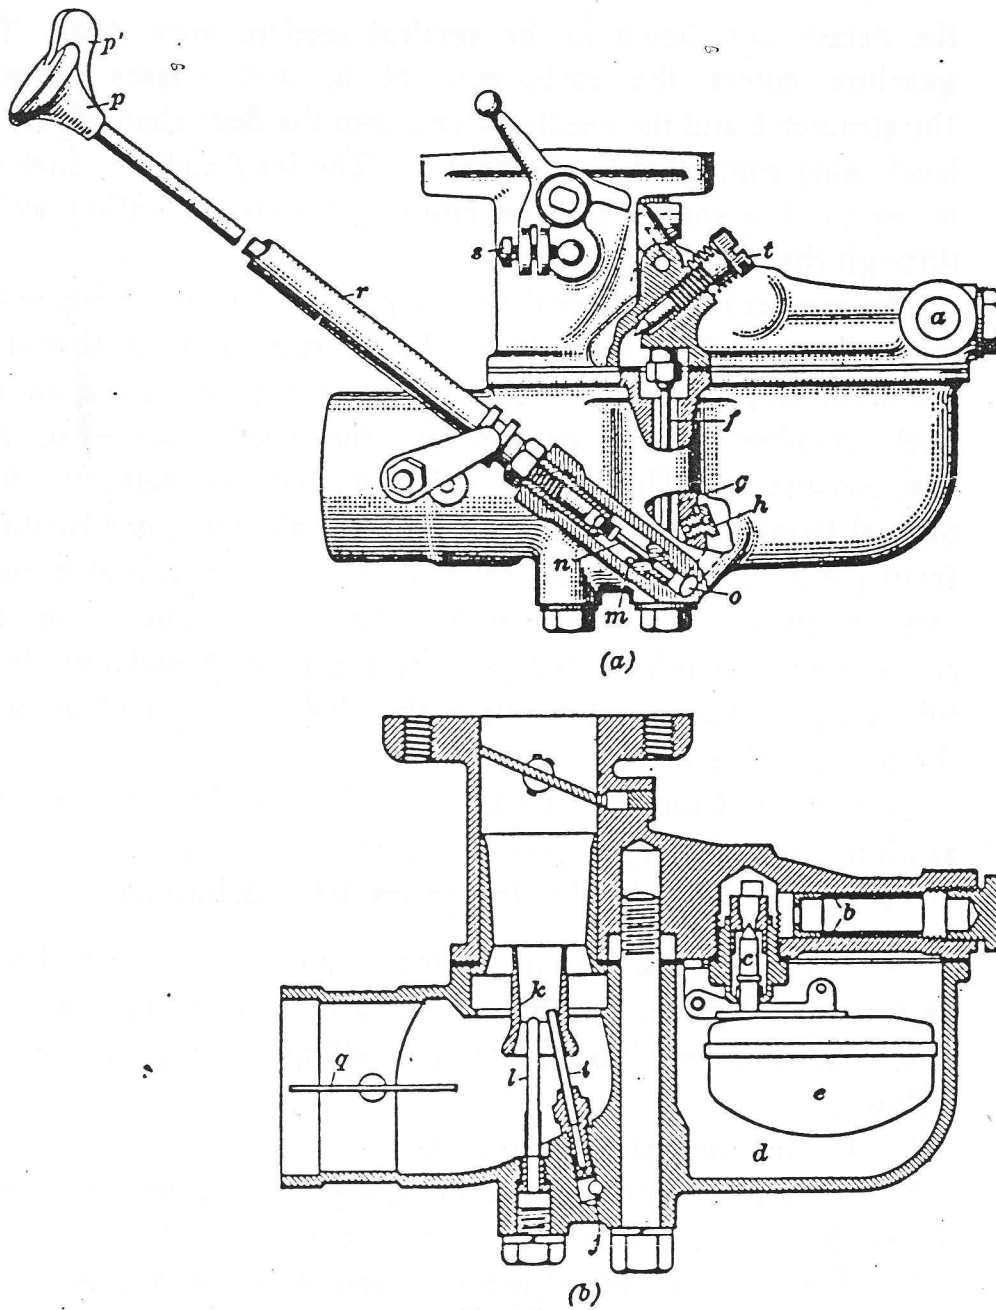

FIG. 29
85. Construction.—The special Zenith carbureter used on the Ford, Model A, car is shown in perspective in Fig. 29 (a), a part of the outer housing being cut away to disclose some of
2. Turn the throttle stop screw *s*, Fig. 29 (*a*), in or out until the engine runs sufficiently fast to keep from stalling.
87. The dash adjustment controls the main flow of fuel from the fuel chamber to the main jet *l*, Fig. 29, but a small amount of fuel is drawn from the fuel chamber through small fixed openings, even when the dash adjustment is fully closed.
Open the hand throttle two or three notches. Fully retard the spark lever. Turn the dash adjustment p , Fig. 29 (*a*), one full turn to the left. Turn on the ignition at the switch. Pull back the choke knob p , and, at the same time, press on the starter switch. At the instant the engine starts, release the choke and turn the dash adjustment to the right, a little at a time, until it is in the normal running position, or one-quarter turn off of its seat.
Open the hand throttle two or three notches, and fully retard the spark control lever. Open the dash adjustment p , Fig. 29